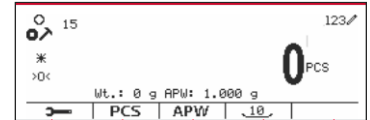

Figure 41
1. Key in the Piece Weight using the alphanumeric keypad. (See Figure 41)